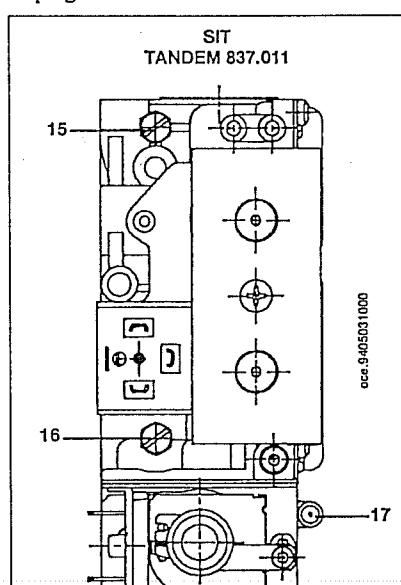

Fig. 32. SIT TANDEM 837.011 gasarmatur.
- Monter den positive del af et dysetryksmanometer på gasarmaturets testnippel "15" (fig. 32);
- monter den negative del af manometeret til en siliconeslange med indskudt T-stykke for at bevare forbindelsen mellem brændkammeret og gasarmaturets kompensationsstuds "17" (fig. 32);
- Connect the positive pressure test point of a differential pressure gauge to the gas valve pressure test point "15" (fig. 32);
- connect the negative pressure test point to a silicone hose with an inserted T-fitting in order to maintain the connection between the combustion chamber and the gas valve adjusting outlet "17" (fig. 32);